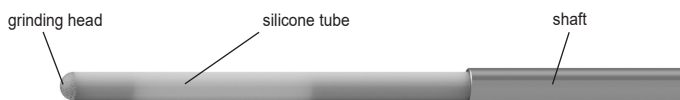

Fig. 2
- Remove corroded or damaged ILM-Scraper (Fig. 2)
- Check if the ILM-Scraper is complete (Fig. 2).